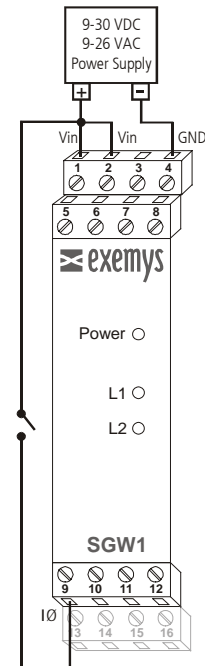

Figure 5 - Digital input connected to a dry contact
- **Case B:** Voltage is not provided by the device (dry contact). An external voltage must be applied. (See Figure 5)